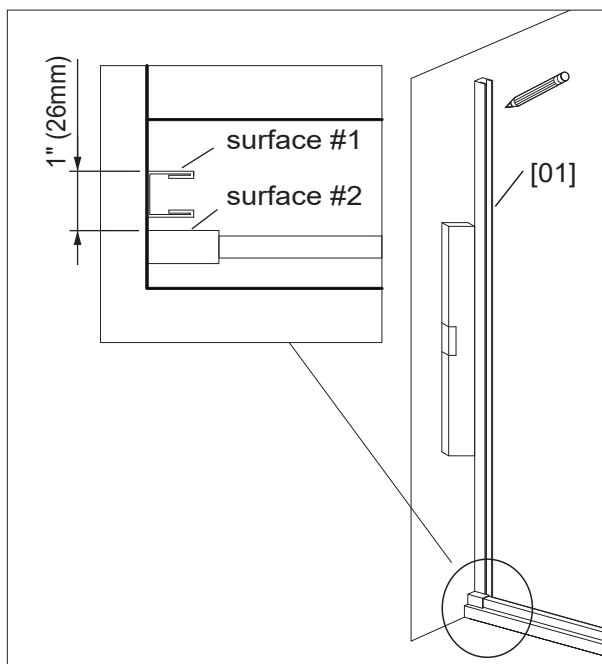

Fig 2.1
1. Position **Wall Profile [01]** on the left side wall closed to the **Anchor Assembly [10]**. (Fig 2.1)
2. Adjust **Wall Profile [01]** to vertical position and mark on the wall through the screw holes of it. (Fig 2.1)